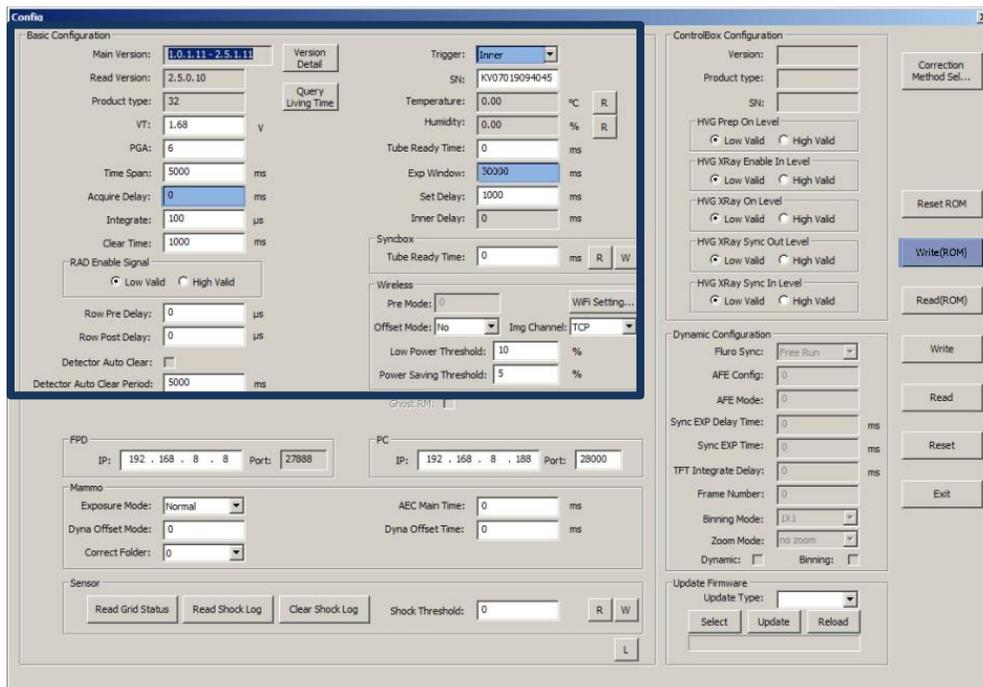

Figure 10
C. Recommended Basic Configuration for all sites **Figure 10**